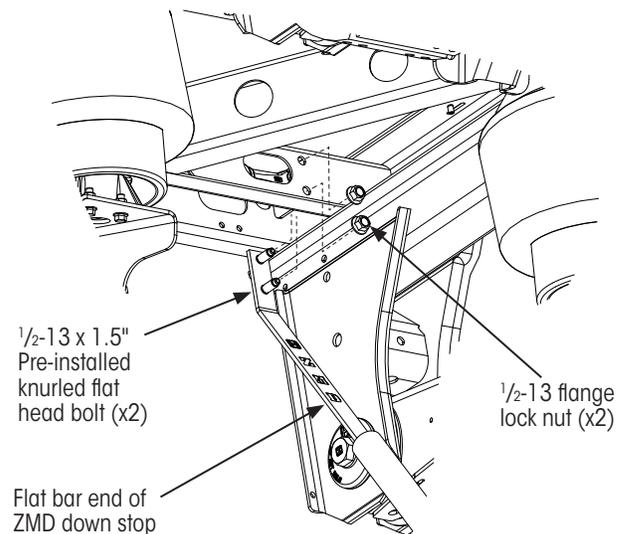

Figure 2: ZMD® down stop mounting holes
1. **Assemble** metal bar end of the down stop to the inside of the slider crossmember, as shown in Figure 2, using flange nuts provided with the kit.
3. Using the hardware provided with the kit, **slide** a hardened washer onto the shear-type bolt (Figure 2).
6. **Thread** the shear-type bolt into the lower shock mount nut as shown in (Figure 2) and hand tighten.
NOTE: For the suspension beam lower shock mount, the nut is tack welded inside the beam (Figure 2). If the threads are damaged and the nut is not reusable, refer to L635 INTRAAX® Shock Mount Assembly Procedure.